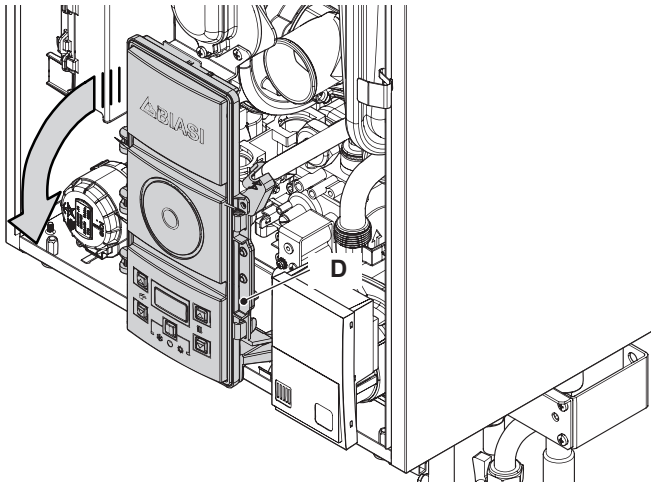

Figure 2.5
- 2 Unscrew the screw D (Figure 2.5).